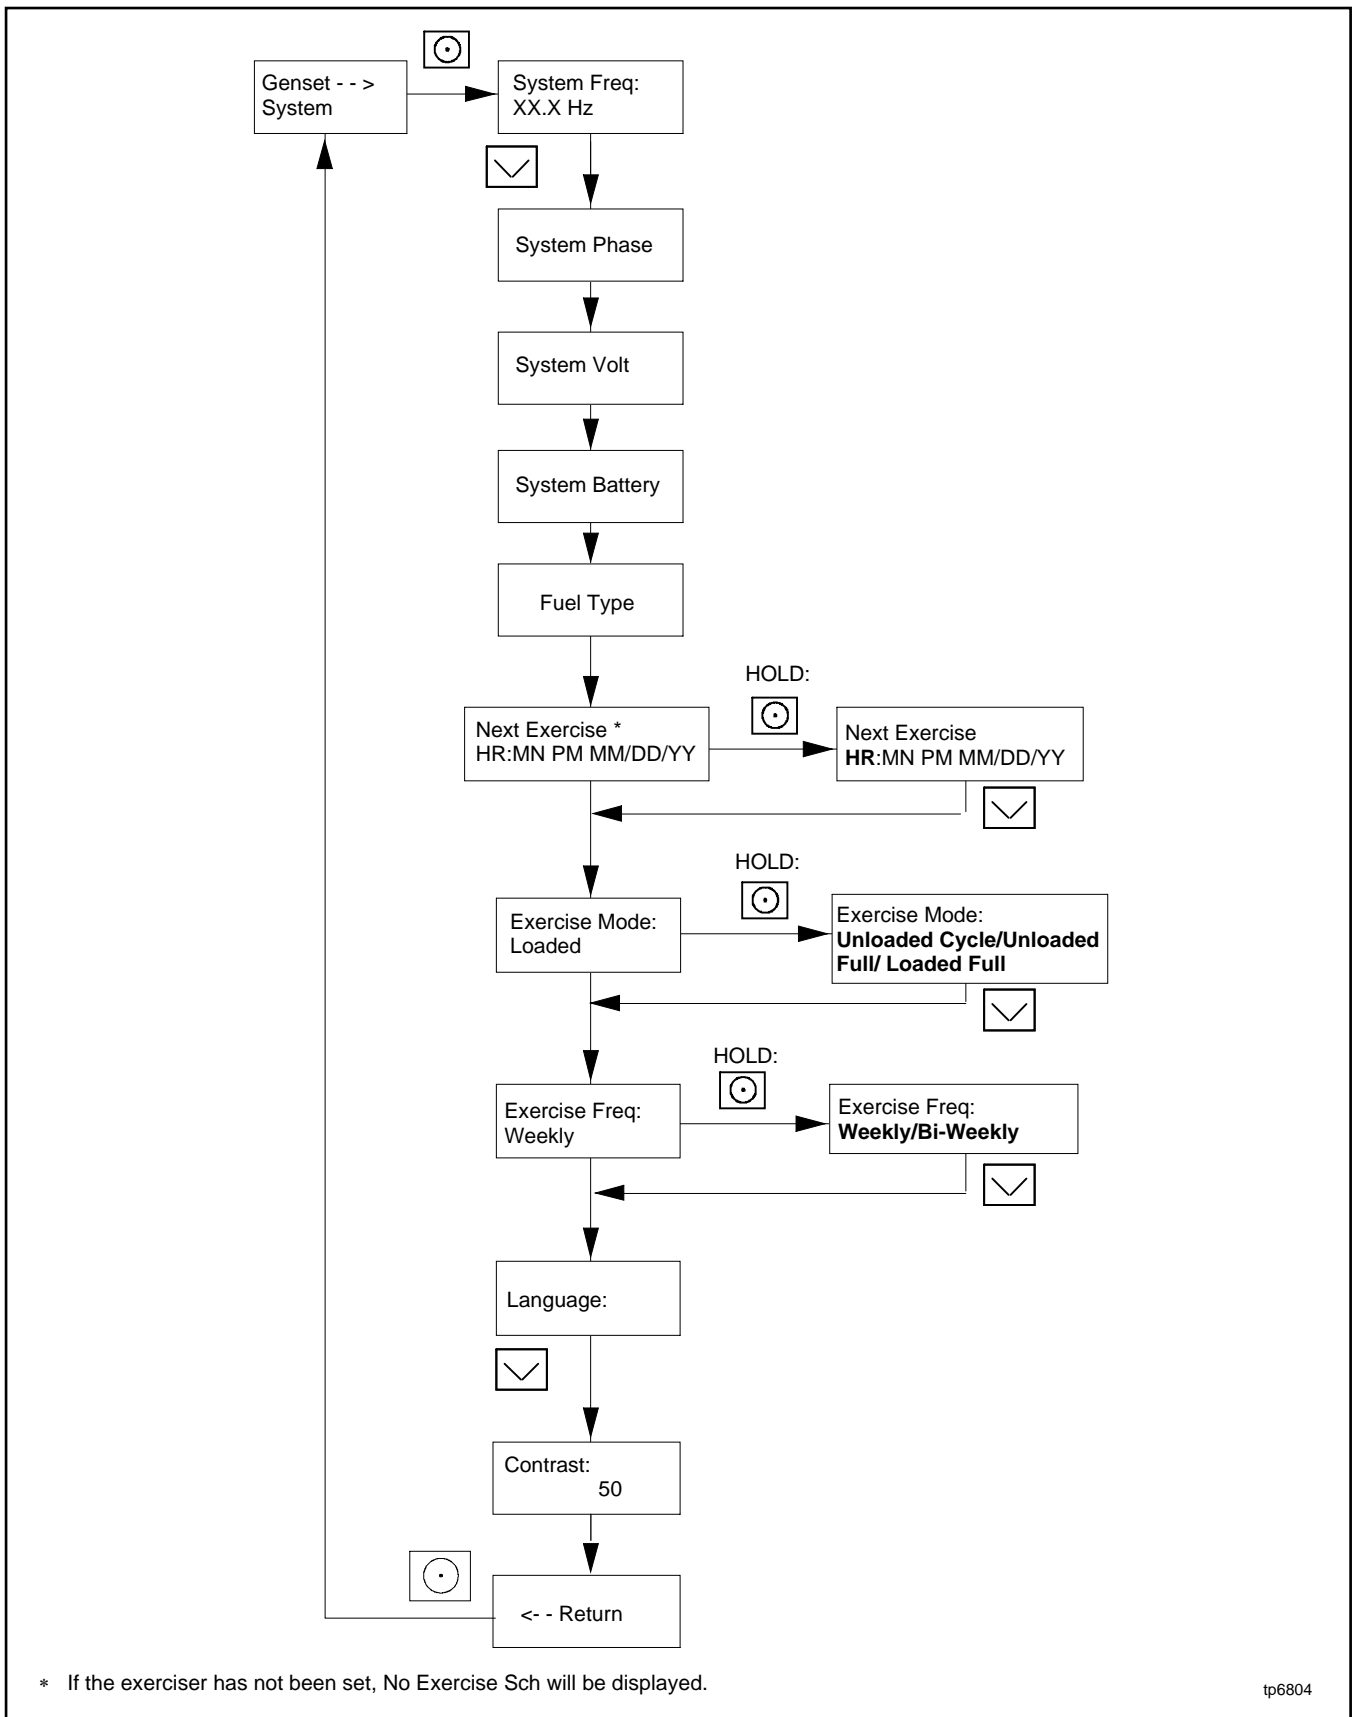

Figure 35 Procedure to Set the Exerciser on the RDC2 Controller
Follow the procedure below and see the flowchart in Figure 35 to set the exercise time and date, mode, and frequency.
4. Press the Select button to enter the Genset system menu. See Figure 35.
12. If the generator set is connected to a Kohler® Model RXT transfer switch, the exercise can be changed to a loaded exercise. Set the Exercise Mode to Unloaded Cycle, Unloaded Full, or Loaded Full (RXT ATS required) as shown in Figure 35. Unloaded Cycle is recommended. See the **Unloaded Cycle Exercise with Complete System Diagnostic through Loaded Full-Speed Exercise (with RXT only)** sections for information about the exercise modes.